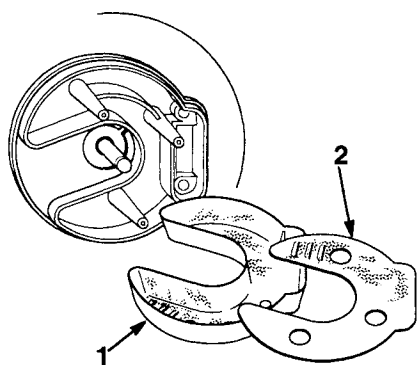

Figure 33
6. Remove capscrews attaching muffler cover and baffle plate to engine mounting plate (Fig. 33).
12. Install baffle and muffler cover to engine mounting plate (Fig. 33). Torque muffler capscrews to 155 in.-lbs. (13 ft.-lbs.) (18 Nm).